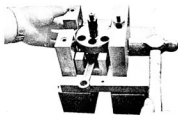

Fig. 4-16-14
3) Join the other half of the crankshaft with the above crankshaft, and press the crank pin into the crankshaft end only half way in. Then place the slide plate on the rim of the crank web, and align the crankshaft temporarily. (Fig. 4-16-14)